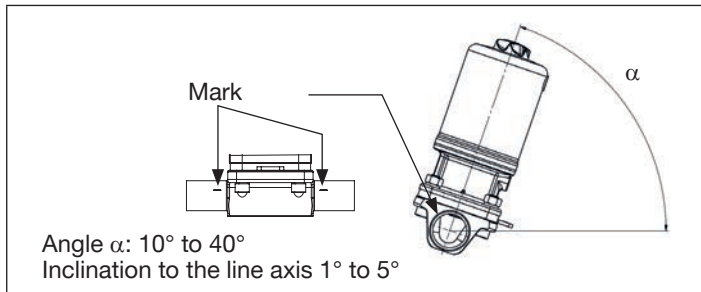

Fig. 7: Installation position for self-drainage of the body
- Forged and cast body: Mark on the body must point upwards (12 o'clock position, see "Fig. 7").